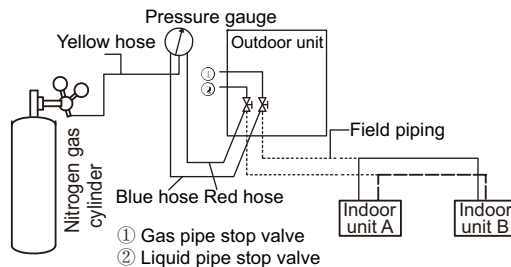

Fig. 52 —Blind Plugs to Block all Liquid (Gas) Side Openings
4. Use blind plugs to block all liquid (gas) side openings, except for the opening at the indoor unit which is furthest from the outdoor units ("Indoor unit A" in Fig.52).